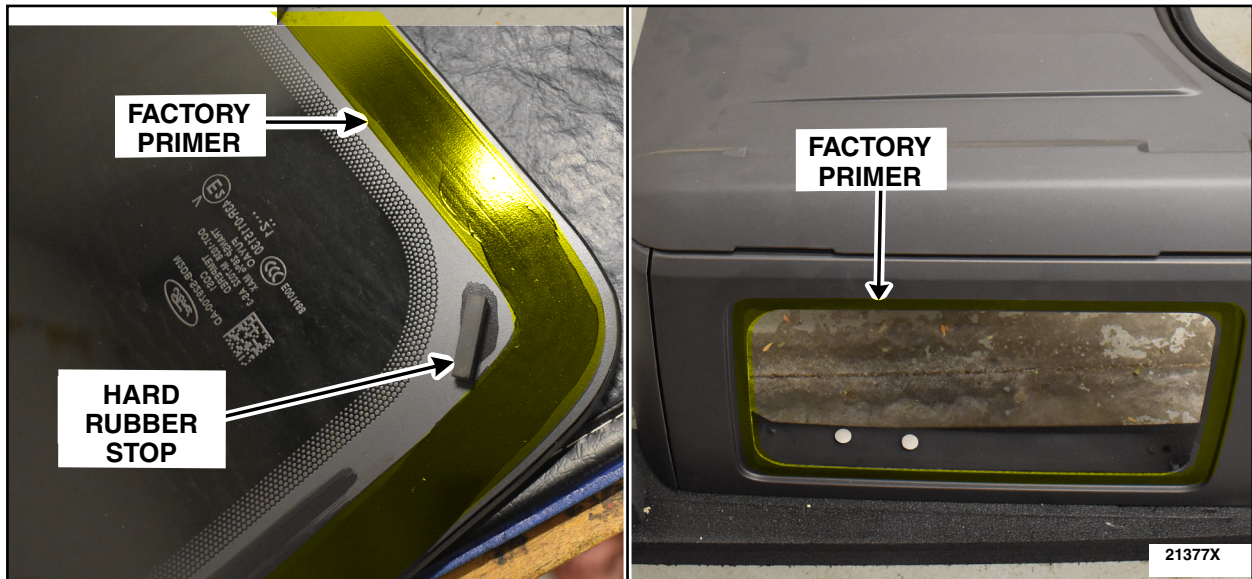

FIGURE 3
1. Using a clean and dry lint-free cloth, wipe any contamination off the factory primer located on the hard top rear cap assembly quarter glass flanges and on both quarter glass. See Figure 3, on Page 3.
3. Carefully apply some Sika® Primer-207, Sika® Aktivator PRO or Dow® BETAPRIME™ 5504G primer to the *new* hard to rear cap assembly quarter window glass flanges and to both *new* quarter glass on top of the existing black primer. Minimize applying primer only over the existing black factory primer and allow at least 10 minutes to dry. See Figure 3.